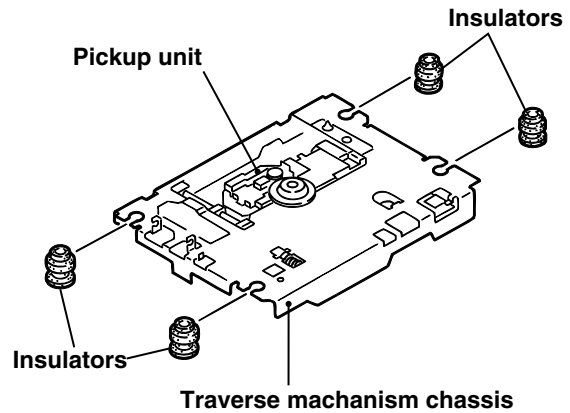

Fig.16
■Removing the Insulators (See Fig.16)